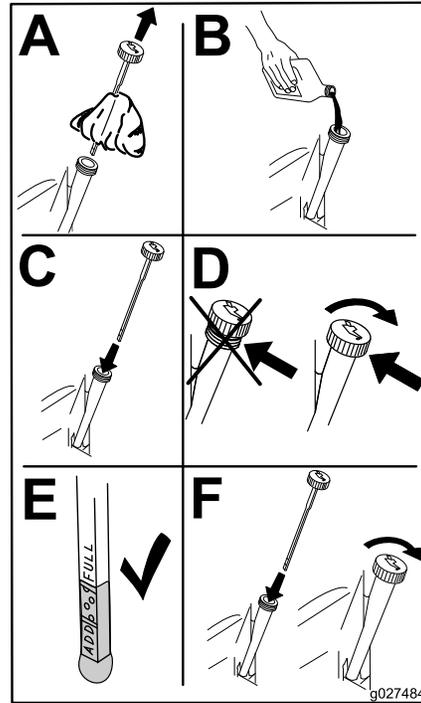

Figure 34
6. Slowly pour approximately 80% of the specified oil into the filler tube and slowly add the additional oil to bring it to the Full mark (Figure 34).